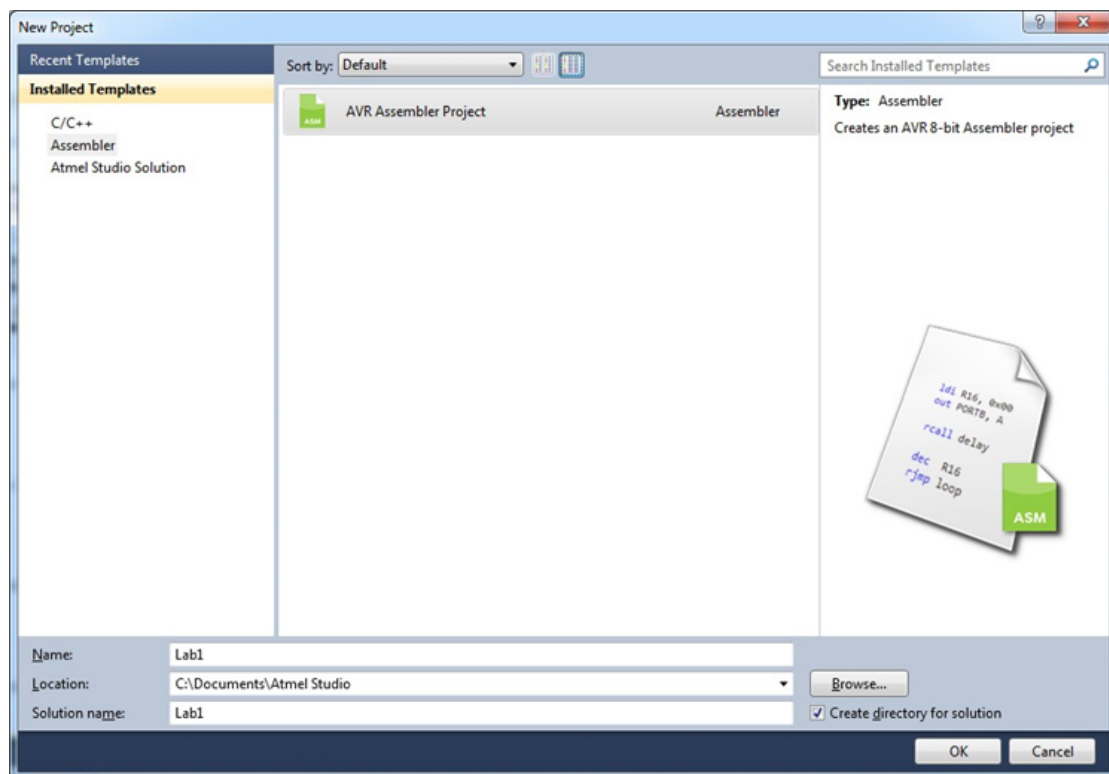

Figure 2.1: AVR Studio Project Creation.
3. The dialogue box that appears should look similar to Figure 2.1. Under **Installed Templates**, make sure **Assembler** is selected.
example, if you named your project **Lab1** as in Figure 2.1, then the automatically-created assembly file would be named **Lab1.asm**.